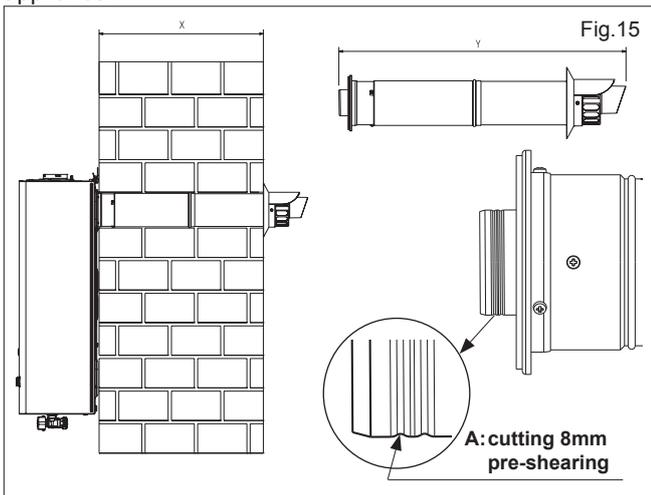

Fig.15
**5.5.1.2 FITTING THE REAR FLUE (fig. 15) (rear flue outlet only)**
**NOTE: The inner 60mm pipe of the rear flue terminal must be cut by 8mm at the point indicated (fig. 15 pos. A).**